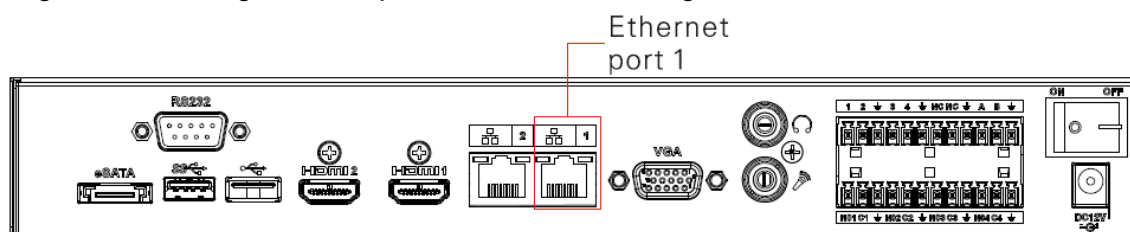

Figure 2-2
Step 3. Central decoding box connects to internal general decoding box through switch and general decoding box uses port 1 to connect, see Figure 2-2.